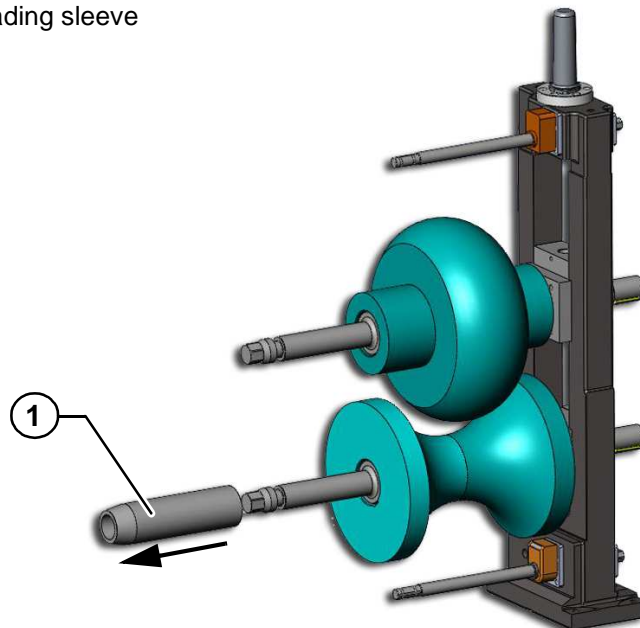

Fig. 2-F Roll assembly: phase 4
- 5- Place the front mobile shoulder near the base notch and insert it (see Fig. 2-G).